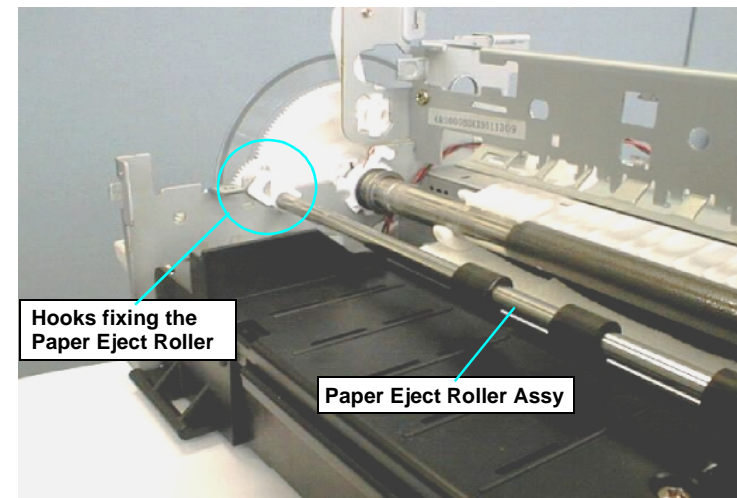

Figure 4-53. Removing the Paper Eject Roller Assembly
- 14) Remove the Paper Eject Roller Assembly, releasing the fixed locks located on the right and Left edges of the Paper Eject Roller Shaft. Refer to Figure 4-53.